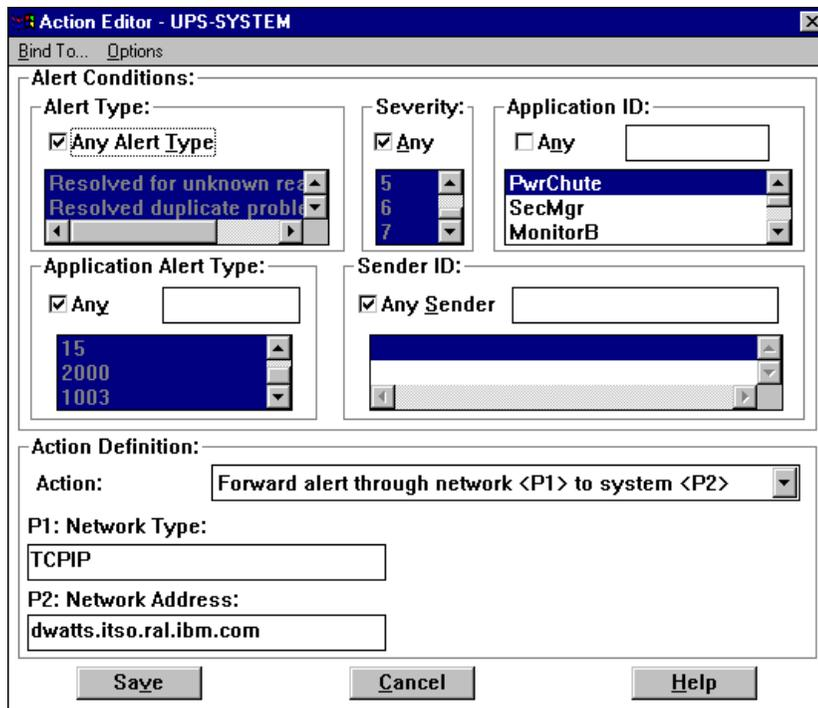

Figure 178. Transferring All Alerts to the Administrator's Workstation
- For each of the four actions we want, click **New** and fill in the Action Editor per Table 44. Figure 178 shows the settings for the first action, to transfer all alerts to the administrator's workstation: